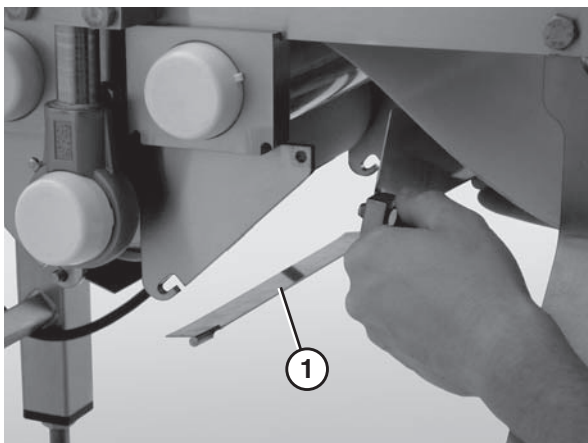

Figure 16
3. Lift up on the center drive guard (**Figure 16, item 1**) and remove it.
10. Reattach the center drive guards (**Figure 16, item 1**).